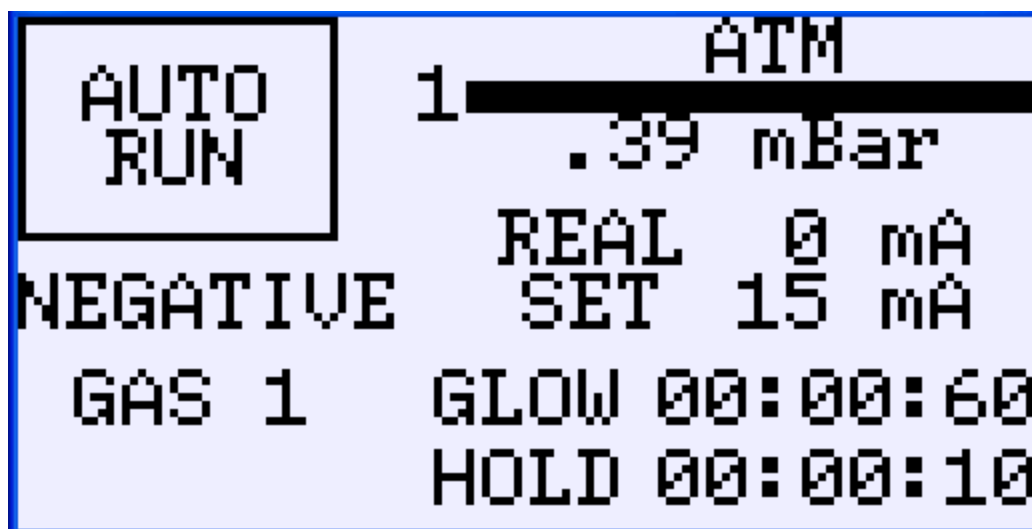

Figure 1
2. Turn on the main power button by depressing the top rocker labeled “I”. When this is done, the touch screen will display the **AUTO RUN** screen (Figure 1).